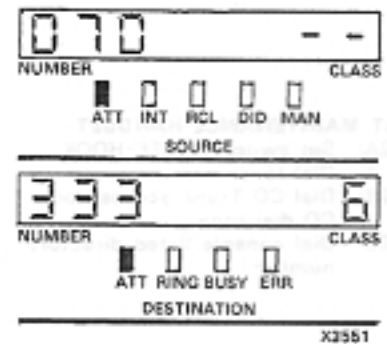

Fig. 300-3
- * SOURCE display (Fig. 300-3) shows the number of the calling trunk, ATT lamp lit